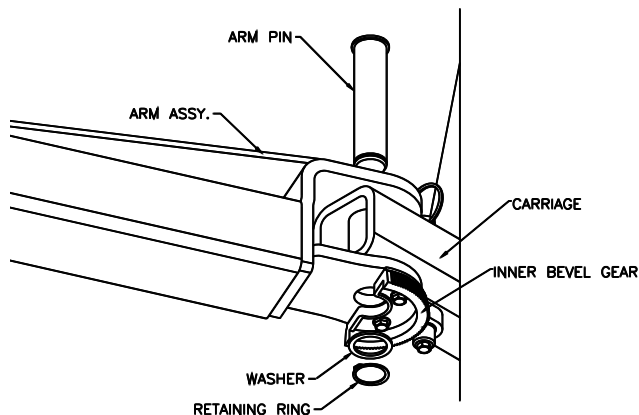

Fig 24 –Arm Pin Keeper Install
- 83) Install the provided retaining ring onto the pin with tool, Fig 24.